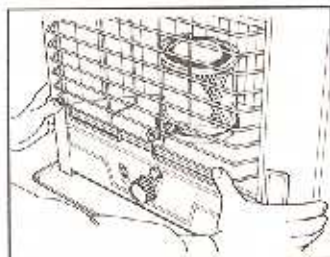

Fig. 1
- (1) Take out heater from the packing case and remove the plasticwrap. Open the guard by pushing inward and then downward to disengage the guard from latches. (Fig.1)
- (2) Take Burner out and remove packing material.
- (3) Open tank cover. Take cartridge tank out and remove corrugated cardboard for cap cushion from the bottom.
- (4) Keep the packing case as a storage box for heater. For future use also keep operating instruction manual.